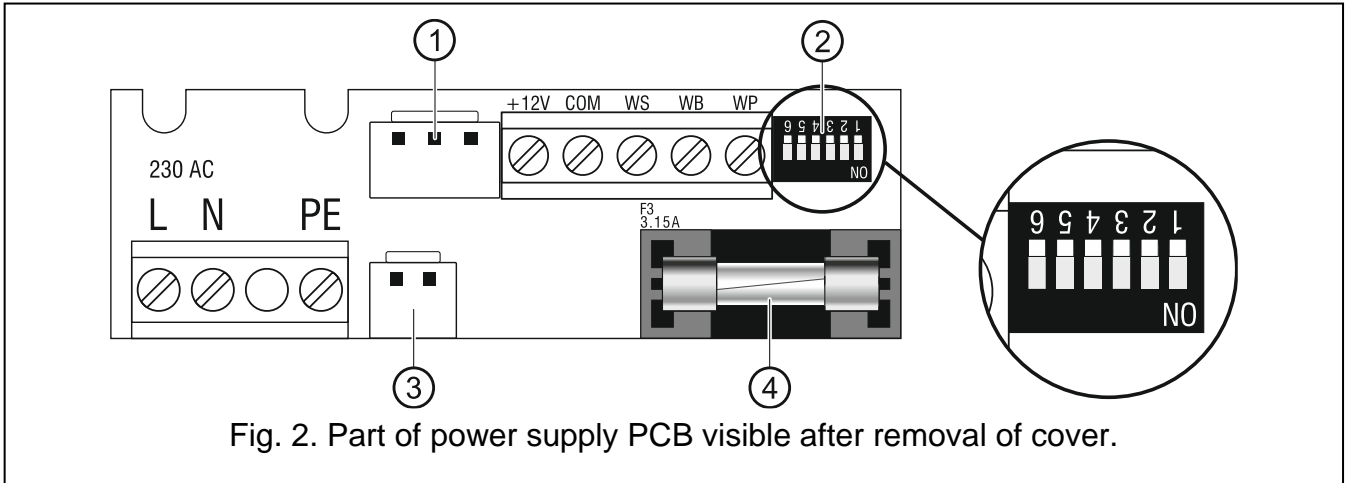

Fig. 2. Part of power supply PCB visible after removal of cover.
Explanations for Fig. 2:
4. If the power supply is to be connected to a device provided with dedicated connector, connect the dedicated cable to the connector designated ① in Fig. 2.
7. Connect battery cables to the connector designated ③ in Fig. 2.